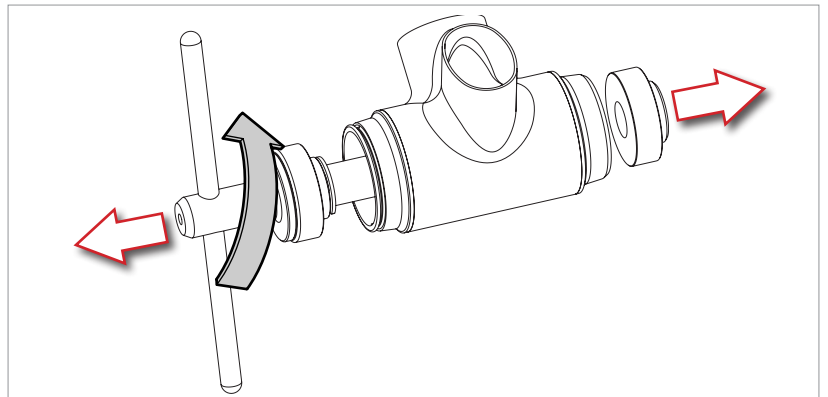

Fig.7
- Turn the lever of tool UT-BB240 anticlockwise to unscrew the left hand bottom bracket cup completely, then remove the screw (Fig. 7).